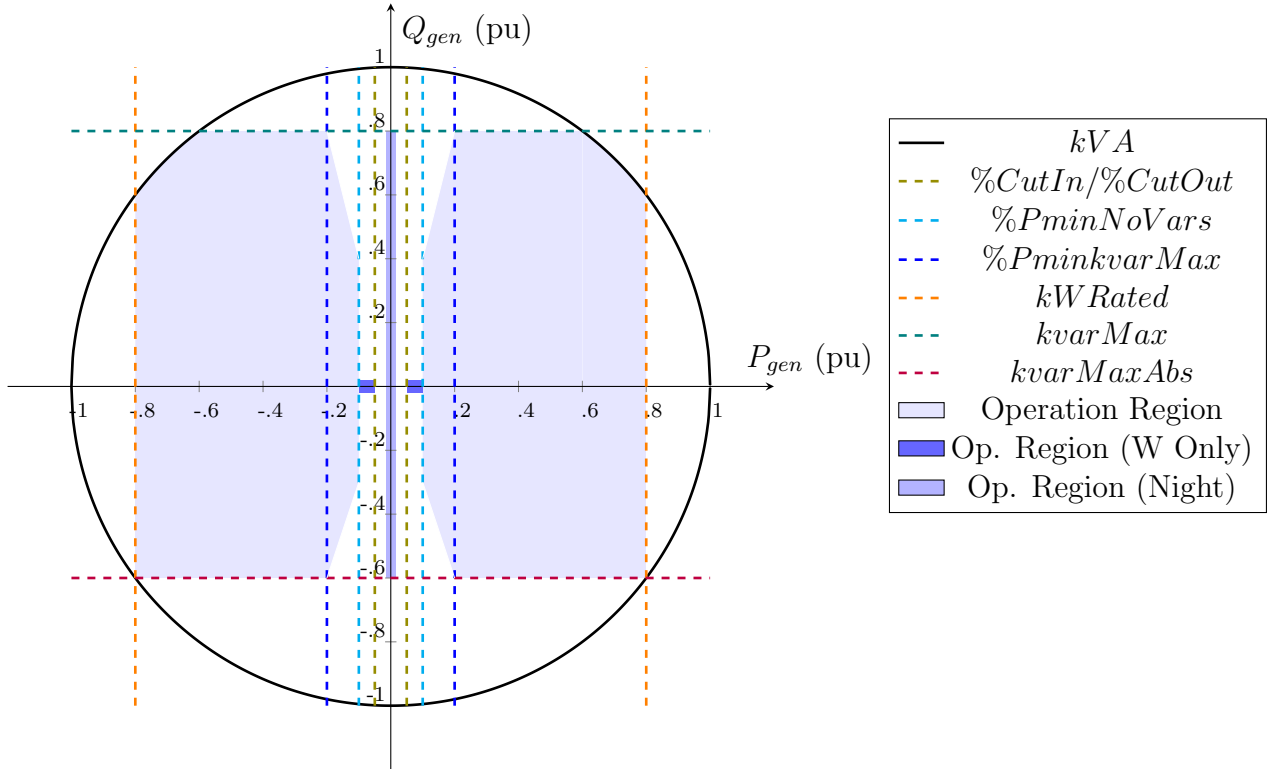
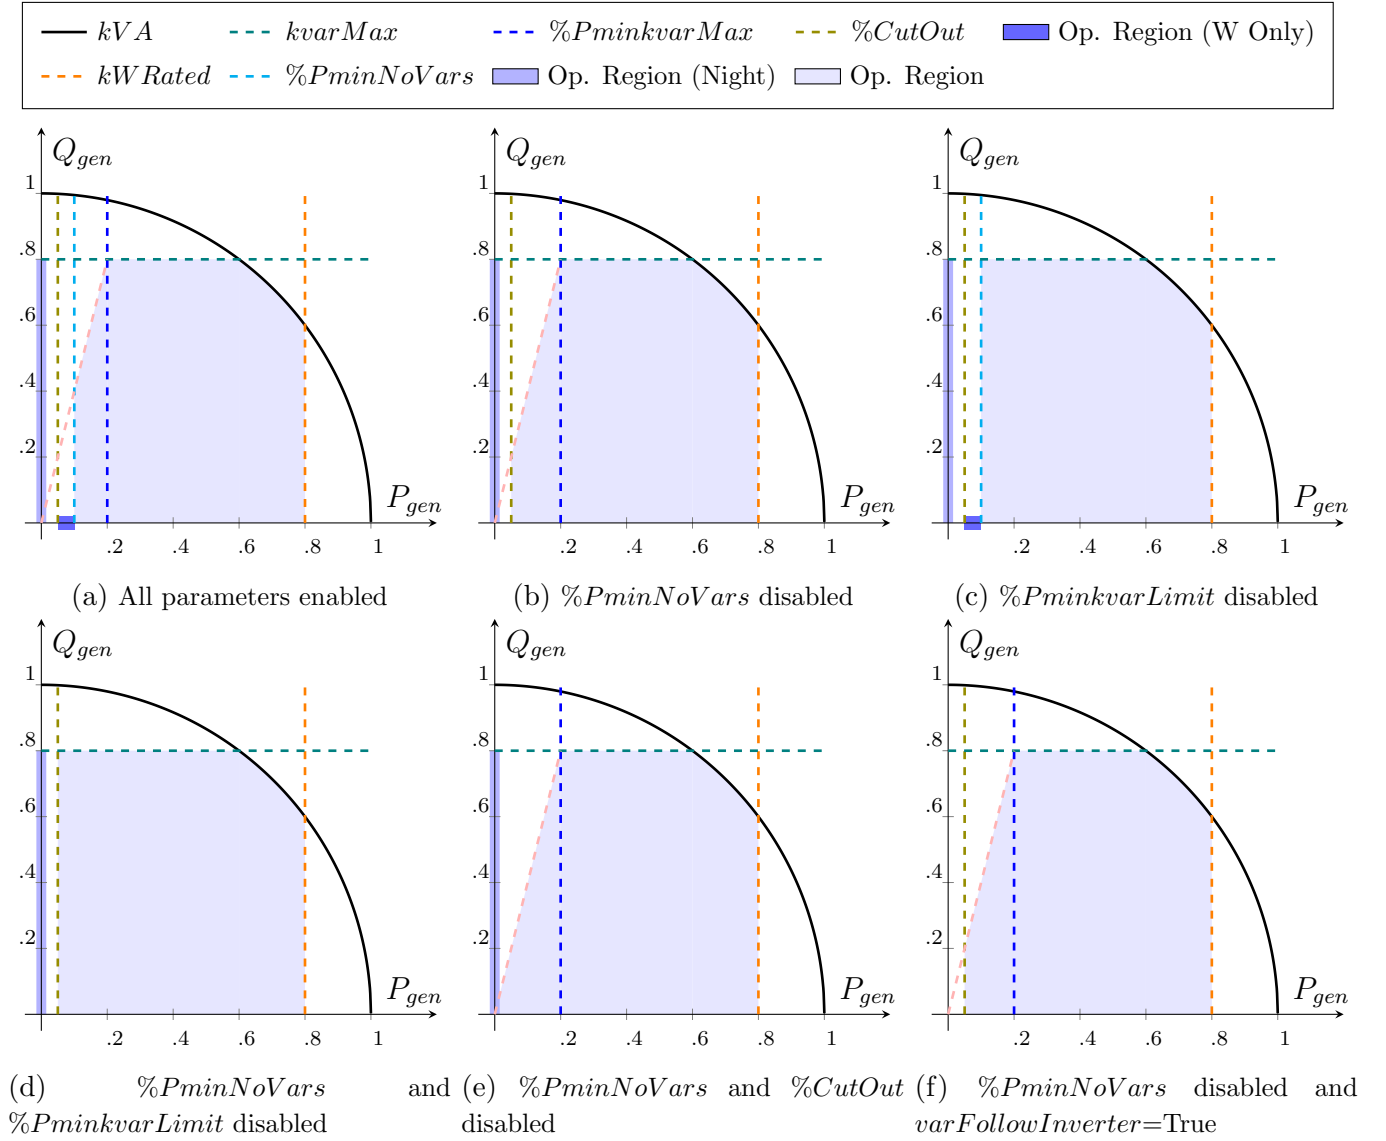

Figure 2: General Inverter Capability Curve
Figure 3: Possible Shapes for Inverter Capability Curve
The most flexible inverter capability curve is presented in Figure 2. All measures are on the AC side of the inverter. Note that %CutIn and %CutOut have been assumed equal. If that’s not the case,
- %CutIn [unit-less]: cut-in power as a percentage of inverter kVA rating. It is the minimum DC power necessary to turn the inverter ON when it is OFF. Must be greater than or equal to %CutOut. Defaults to 2 for PVSystems and 0 for Storage elements which means that the inverter state will be always ON for this element. %CutIn in Figure 2 represents the specified %CutIn adjusted by inverter losses, i.e., the equivalent %CutIn at the AC side of the inverter.
- *%CutOut* [unit-less]: cut-out power as a percentage of inverter kVA rating. It is the minimum DC power necessary to keep the inverter ON. Must be less than or equal to *%CutIn*. Defaults to 2 for PVSystems and 0 for Storage elements which means that, once ON, the inverter state will be always ON for this element. *%CutOut* in Figure 2 represents the specified *%CutOut* adjusted by inverter losses, i.e., the equivalent *%CutOut* at the AC side of the inverter.
As mentioned earlier, Figure 2 shows the inverter capability curve resulting from the use of all possible properties. In order to generate simpler curves, OpenDSS allows some of the properties to be disabled. Figure 3 describes possible modifications to the capability curve by enabling/disabling the *%PminNoVars*, *%PminkvarLimit* and *varFollowInverter*. For simplicity, the resulting capability curve is shown for operation in first quadrant only (the disabling of any parameter also affect the capability curve in the other quadrants). Note that *%CutOut* and *varFollowInverter* can also be disabled.